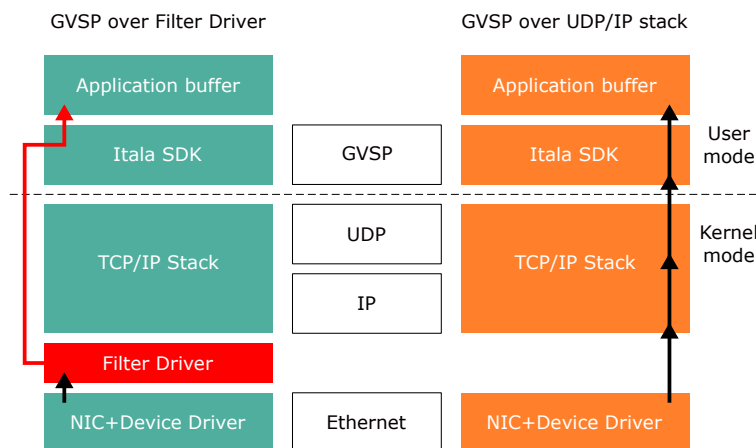

Figure 2: GigEVision Streaming (GVSP) with and without the Filter Driver
To better handle the image streaming high throughput, it's recommended to use the **Itala filter driver**. The filter driver intercepts *GigE Vision* streaming protocol packets, reassembles the whole payload and sends it directly to the application image buffer. This allows to skip the standard network protocol stack that would increase latency and CPU usage on the host machine (Fig.2). The result is a low level packet handling offload which optimizes the host system resources consumption.
4. At the end of the installation, the filter driver will appear in the NIC property window (Fig.2).